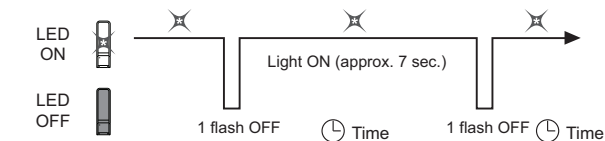

Fig. 6
**Boiler Operating** The light will flash orange at EVERY heating demand. The number of flashes will correspond with the heat output of the boiler. This is normal and does not indicate a fault condition. During normal running illuminates green and blinks off momentarily every seven seconds approximately to show the boiler is running normally and supplying heat (Fig. 6).